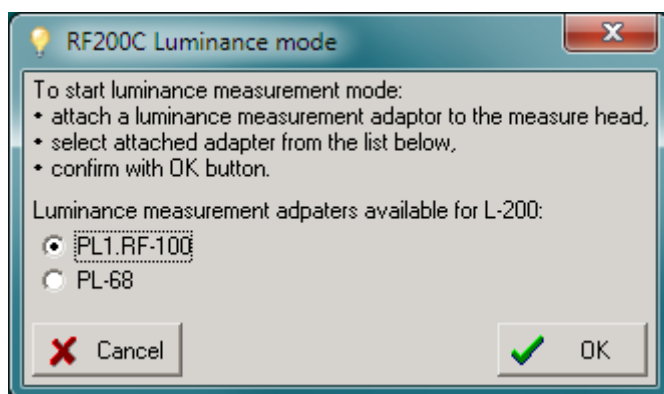

Fig. 6. Window for turning on the luminance mode.
- follow the **Command**→**Luminance mode** menu command or check the proper control of the main program window (see Sec. 1.3.3), the window for selecting the type of attached adapter opens (see Fig. 6),